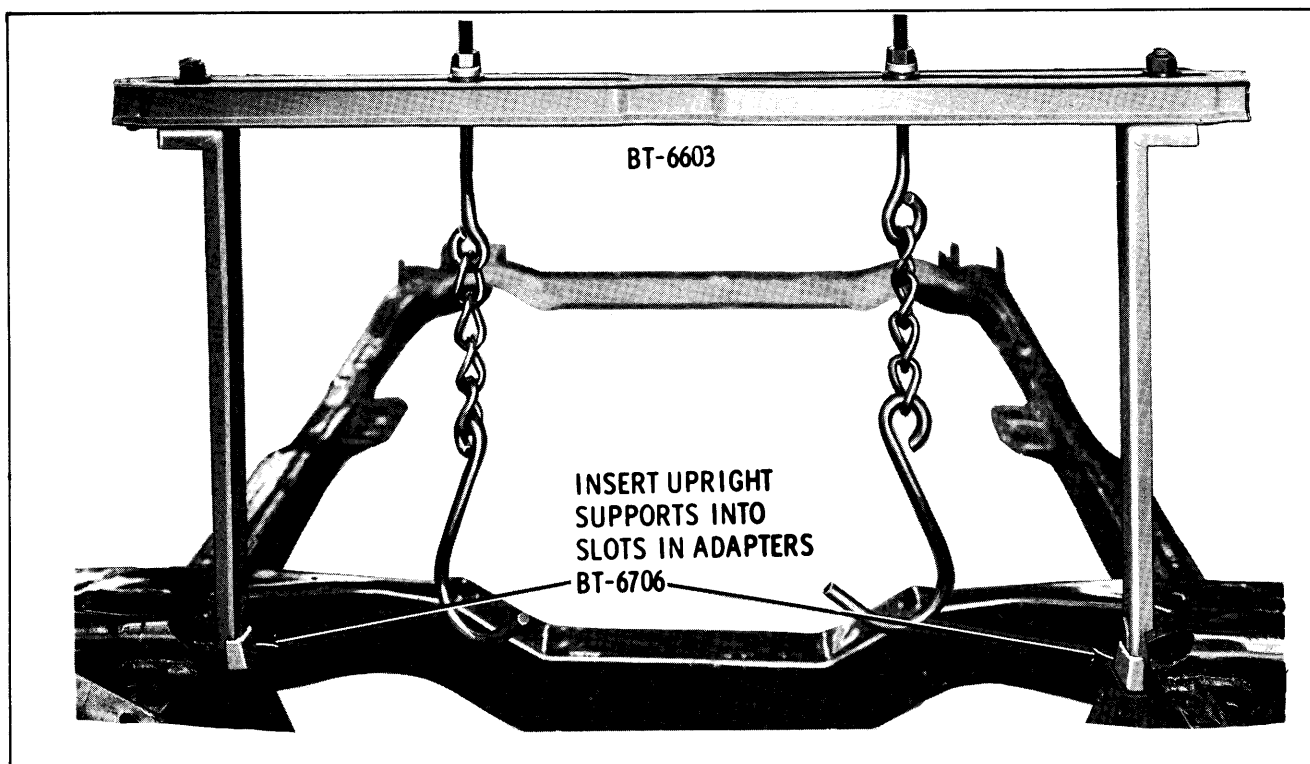

Fig. 7E-13 Installing Support Bars
5. Remove bolts "A", "B", "C" and "D". (Fig. 7E-16)